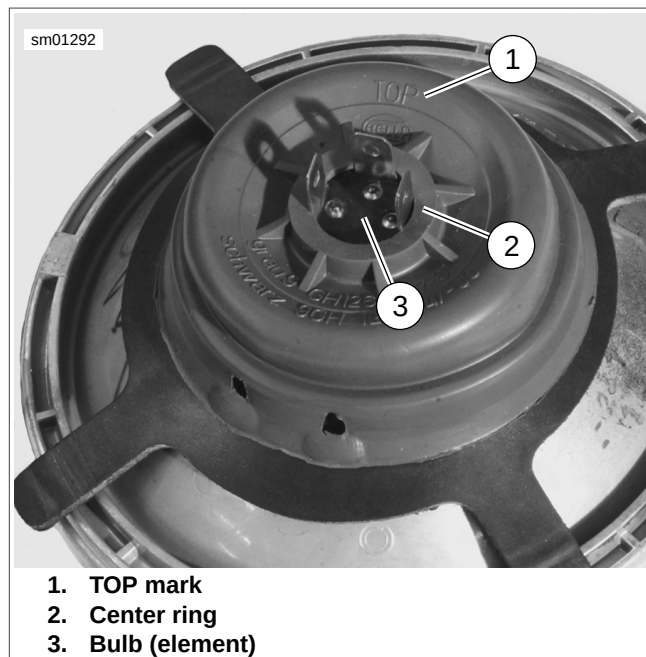

Figure 6-55. Headlamp Boot (TOP Mark)
12. See Figure 6-55. Install rubber boot with word TOP (1) over top notch.
13. Press center ring (2) down flush with base of bulb (3) and press air out of boot to seal bore of boot to bulb and boot flange to rubber finger gasket.